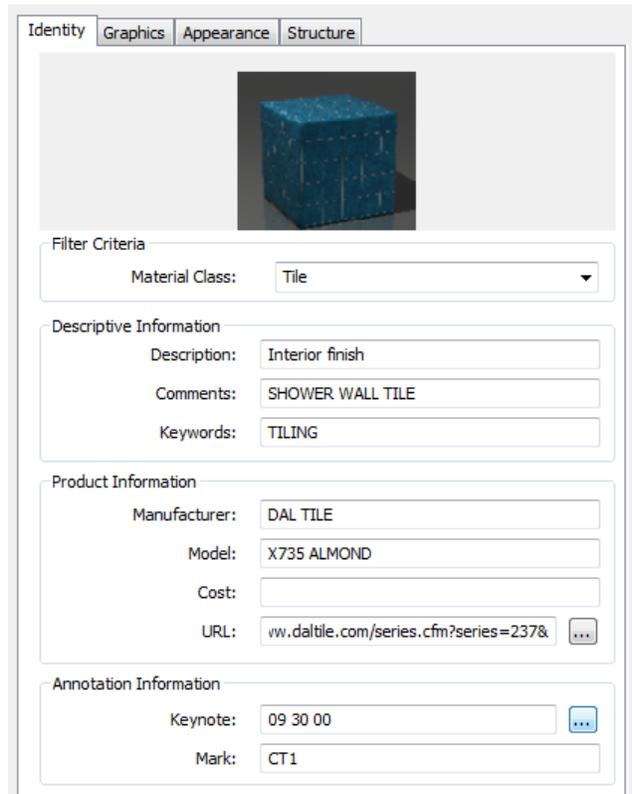

FIGURE 4-3.17 Materials dialog; Identity tab
47. Set the *Cut Pattern* to **None** (Figure 4-3.17).
61. Finish entering the information on the *Identity* tab as shown in Figure 4-3.17.